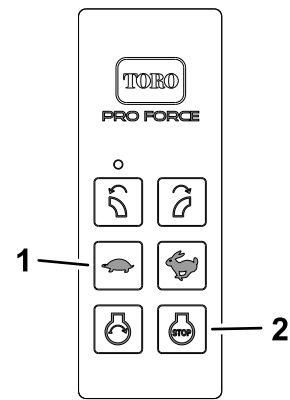

Figure 20
2. Press the ENGINE-STOP button (Figure 20).
1. Press the DECREASE-ENGINE SPEED button (Figure 20) on the handheld remote to slow engine speed (about 3/4 throttle).